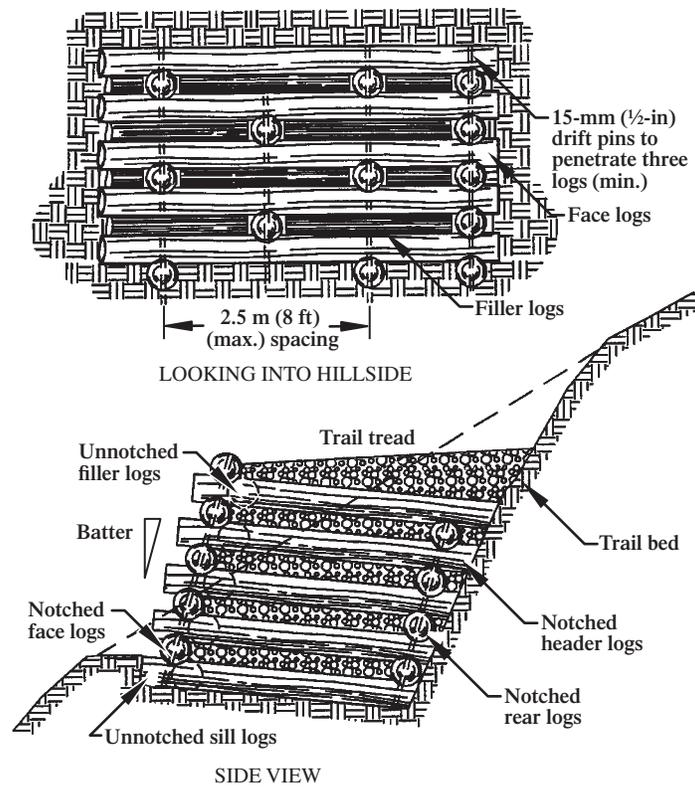

Figure 77—The characteristics of a crib wall. Treated logs are recommended.
*Log walls* are designed to keep compacted fill in place (figure 76). Construct wood walls by interlocking logs or beams, pinned or notched (for logs) at the joints. Lay sill logs at right angles to the direction of travel and alternate tiers of face logs and header logs (figure 77).